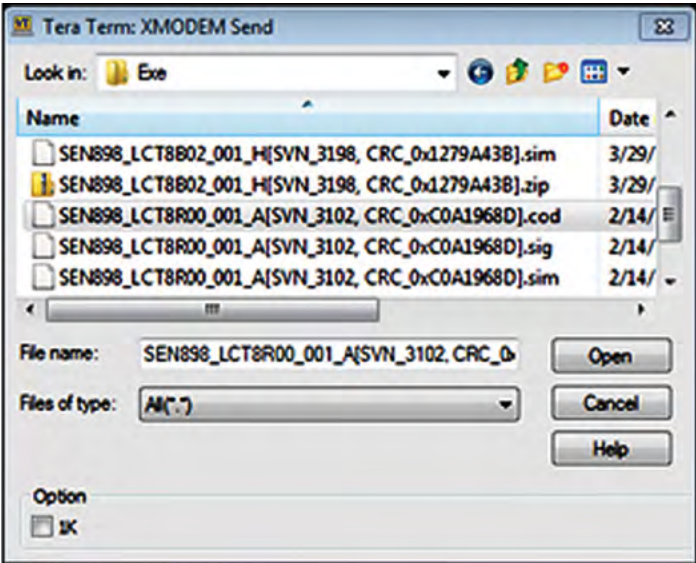

Figure 79: XMODEM send file selector
- 6. When the Tera Term: XMODEM send file selector window opens (see Figure 79 on page 81), locate and select the .cod extension file from your PC. After selecting the .cod extension file, click open and the status window shown on the left in Figure 80 on page 81 opens. At this time, the meter display shows the file receive status (see the right of Figure 80 on page 81).